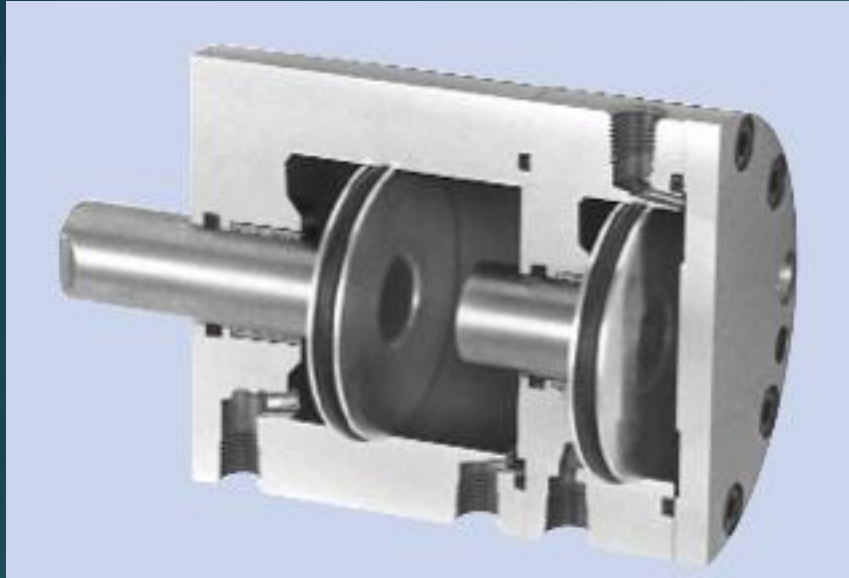

Fig. 9. Duplex cylinders have multiple pistons that are not connected to a common rod. Actuating individual piston chambers achieves multiple strokes.
- ▶ also have two or more cylinders connected in line, but the pistons of a duplex cylinder, Figure 9, are not physically connected; the rod of one cylinder protrudes into the non-rod end of the second, and so forth. A duplex cylinder may consist of more than two in-line cylinders and the stroke lengths of the individual cylinders may vary. This makes them useful for achieving a number of different fixed stroke lengths, depending on which individual pistons are actuated.